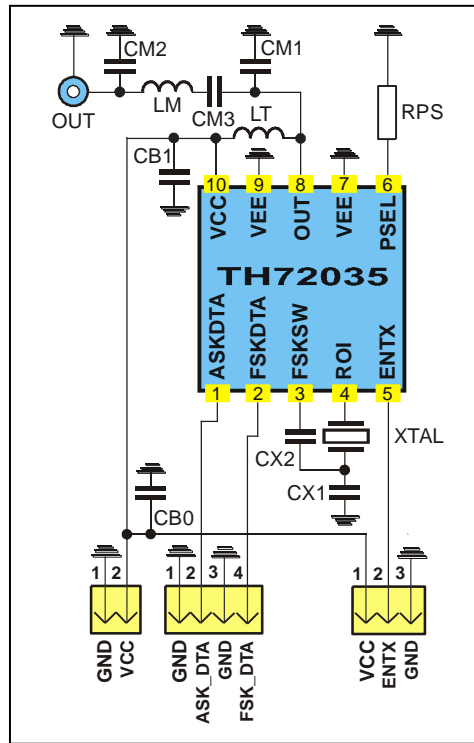

Fig. 18: Test circuit for FSK and ASK with 50  $\Omega$  matching network
typical values at  $T_A = 23\text{ °C}$  and  $V_{CC} = 3\text{ V}$ ; test circuit shown in Fig. 18,  $f_c = 868.3\text{ MHz}$
- Data according to test circuit in Fig. 18 (868.3MHz)
### 6.1. Test circuit component list to Fig. 18